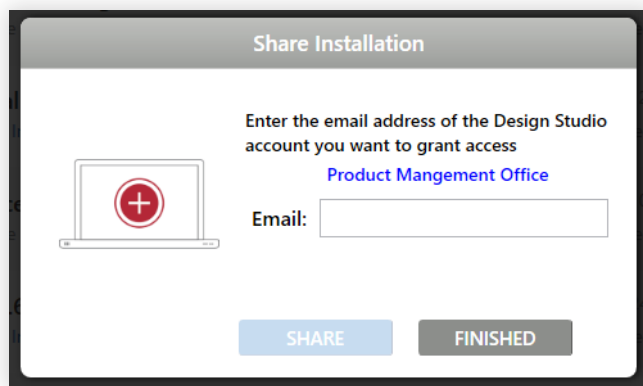

fig. 9
- i Choose **Share**. You will get a prompt asking for the email address of the first user with whom you wish to share, as in fig. 9.